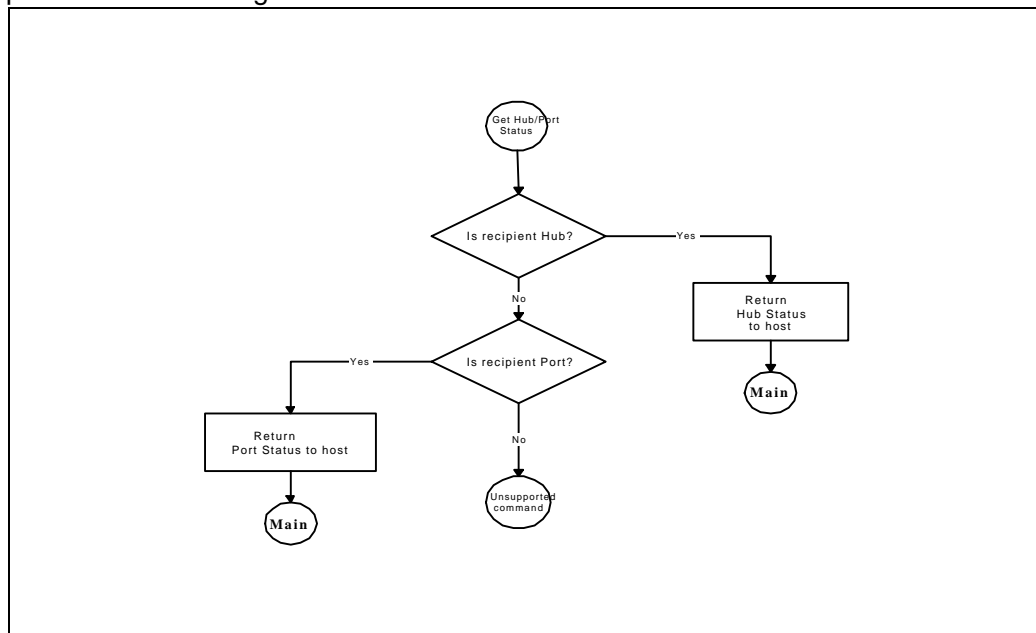

Figure 19: Get Hub/Port Status Command
- Get Hub/Port Status (Figure 19)